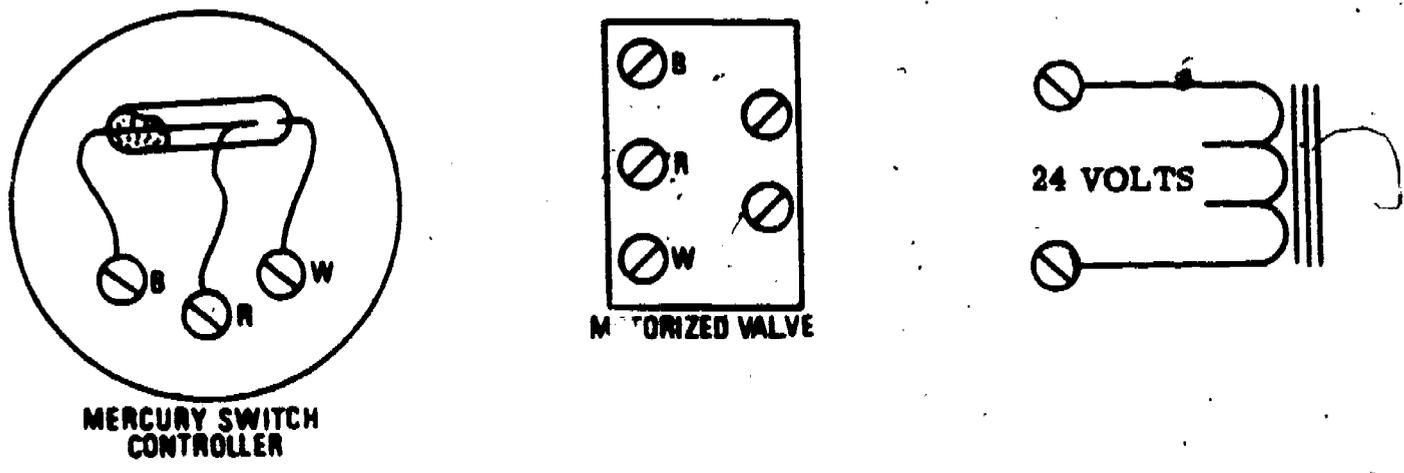

Figure 1. Control Circuit
1. Connect the 3-wire signal and power circuit and indicate the switch movement on a rise in variable in figure 1.
3. Connect the wires as indicated in your drawing, figure 1.